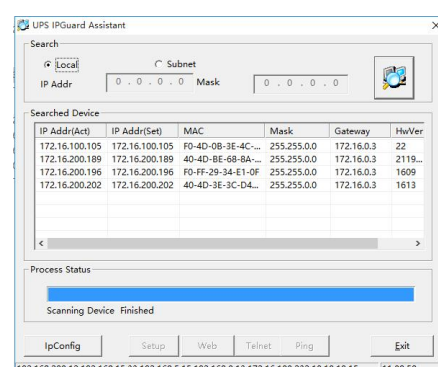

Figure 7
⑥ As shown in Figure 7, the newly set IP will take effect after the device is restarted. Re search displays the new IP address.